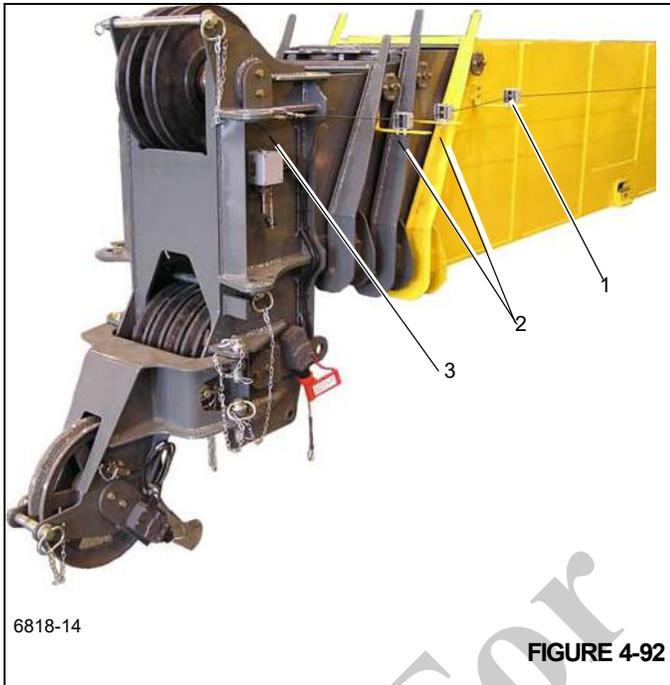

FIGURE 4-92
12. Disconnect the RCL/A2B cable that was attached to the base section cable guide (1), (Figure 4-92) in the removal of the boom and feed the cable through the inner and outer mid section cable guides (2), (Figure 4-92) and then through the fly section cable guide (3), (Figure 4-92).